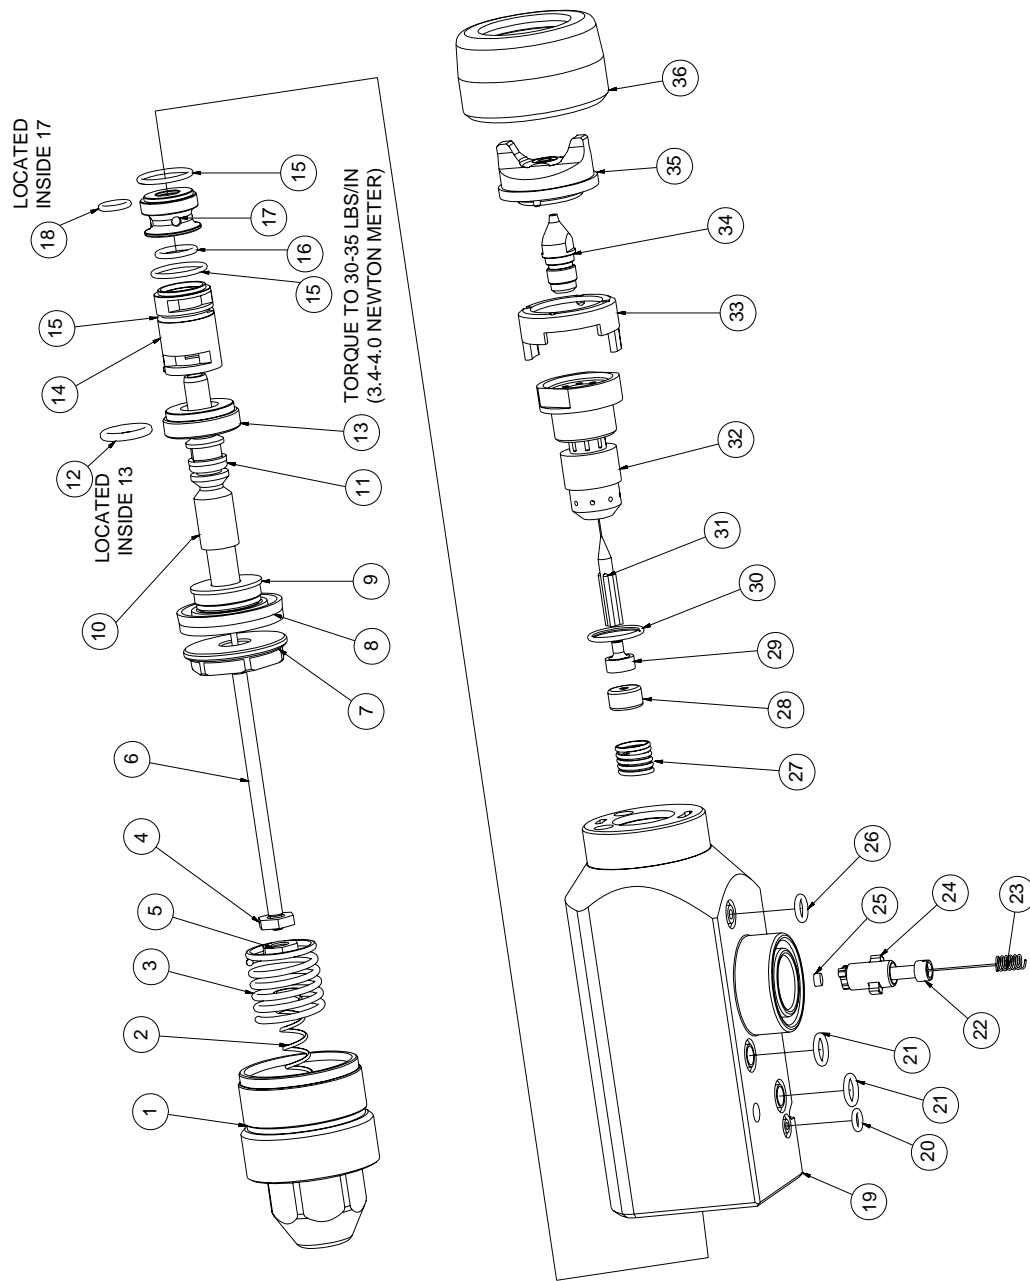

Figure 18: 79138-01 Spray Head Assembly
PARTS LIST (Figure 18)**
**(Figure 18)**